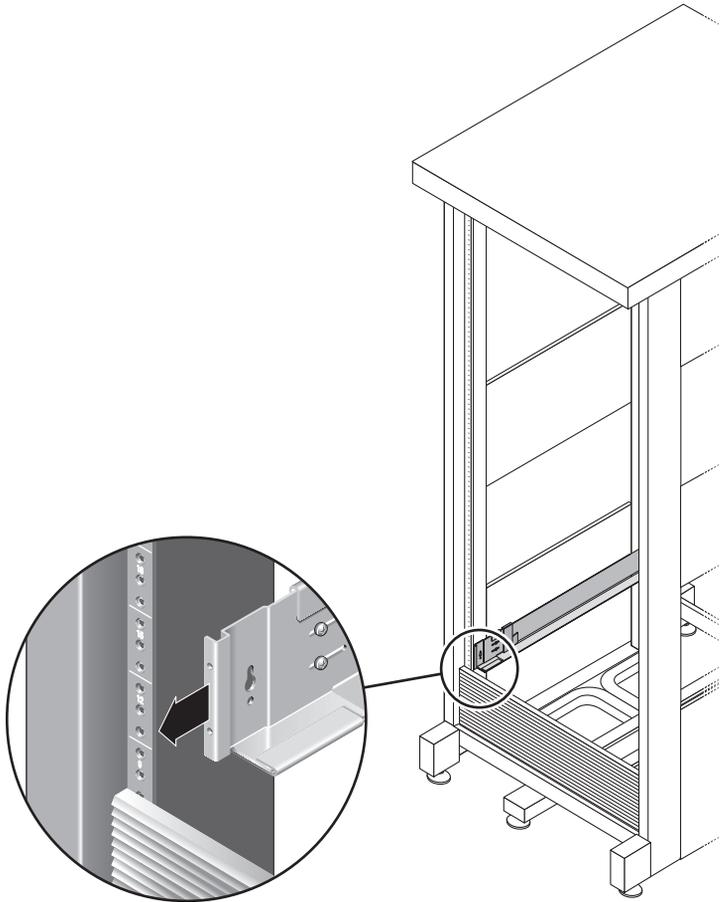

FIGURE 2-10 Adjusting the Length of the Right Rail at the Back of the Cabinet
4. At the back of the cabinet, adjust the length of each rail as needed to fit the cabinet, and position the rail flange over the vertical rail (FIGURE 2-10).